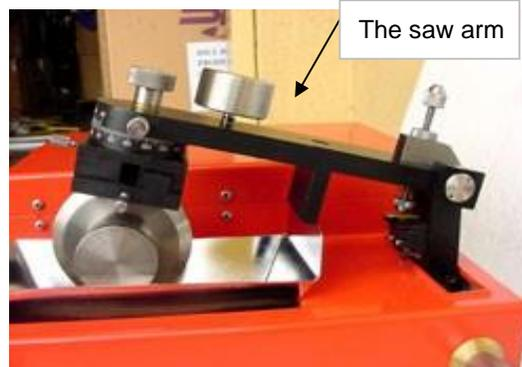

Figure 8
- 5.3.13 Gently lower the arm with the specimen onto the diamond wheel very gently to begin cutting of the specimen (Fig. 8).